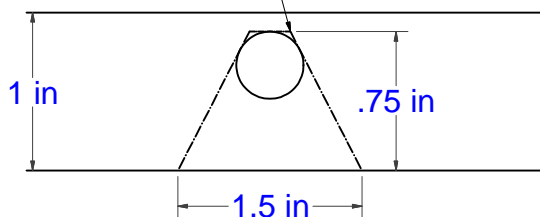

FIGURE 1
- 2) The exhaust **must** be lowered on **Mega Cab & 1/2 ton applications**. Remove the rear most exhaust bracket and replace it with the exhaust bracket supplied in the bolt kit. When installing the provided bracket, use the lower most hole. This will drop the exhaust and provide clearance for the cross arm installation on the Mega Cab, and the clearance needed to insert the 5/8" x 7 3/4" bolt through the bottom of the frame on 1/2 ton applications. Next, install the two cross arms by sliding them through the wheel well, above the tire on the passenger side of the truck, between the truck frame and truck bed. Slide through until the cross arms are sitting on the truck frames. The gap between the bed and frame is large enough to allow this, but is partially obstructed by an approximate 1" of sheet metal flange that is hanging down from the bed. Notch the flange on the passenger side of the truck. Locate the 7/16" hole in the flange above the axle and remove the metal below the hole. (As shown in **Figure 1**) This notch allows for the rear cross arm installation.